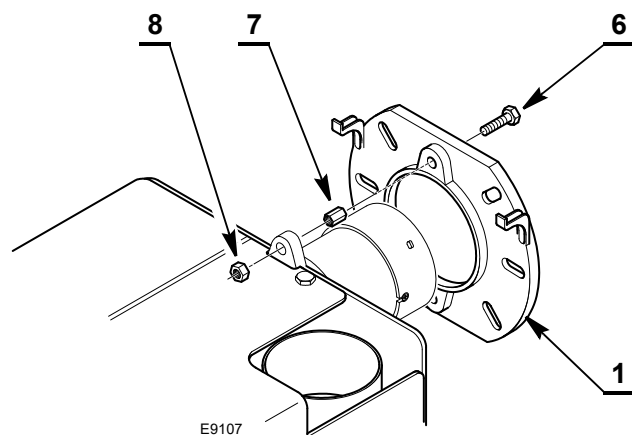

Fig. 6
- Fix the bolt 6) and nut 7) onto the flange 1) as in Fig. 6.
- Fix the securing nut 8)(Fig. 6) onto the bolt 6).